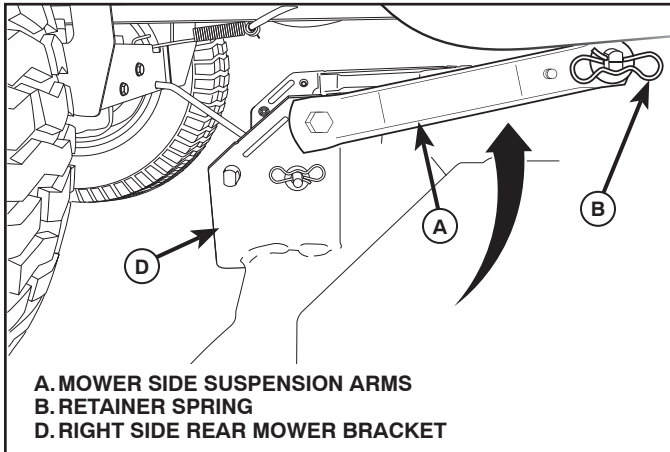

Fig. 29
6. ATTACH MOWER SIDE SUSPENSION ARMS (A) TO CHASSIS (See Fig. 29)
- Position front hole in side suspension arm (A) over pin on outside of tractor chassis and secure with large washer and large retainer spring (B).